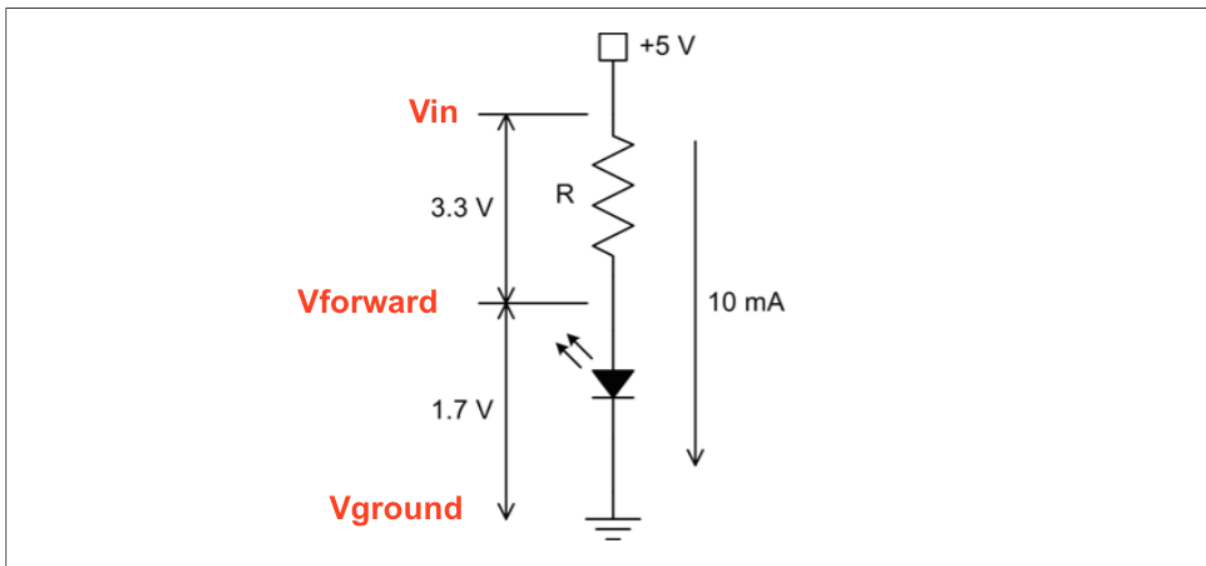

Figure 2-9. Simple LED circuit
Set up the LED circuit and use Ohm's law and Kirchoff's law to determine the properties of the circuit. Referring to Figure 2.9 from "Realworld Instrumentation", below.
1. Use the circuit diagrams in Figure 2.9 to build your circuit between the Arduino, LED and breadboard. For power source, use the Vin pin on the Arduino. For Ground, use the GND pin adjacent to Vin. (*NOTE: LED's only permit current to flow in one direction. Attach the long pin closest to +V and the short pin closest to GND.*)
1. What color is your LED? Based upon color, the LED shop figure tells us the expected voltage drop at the max allowable current. What should the voltage drop and max current through the LED be? (In Figure 2.9, this is labeled as 1.7 V. In our case, it might not be 1.7 V). **Report the color of your LED and the expected voltage drop in your writeup.**
- Now that you have a theoretical voltage drop across the LED (from question 1), use Kirchhoff's voltage law to estimate the voltage drop across the resistor. $\sum_j V_j = 0$; the sum of the voltages around a circuit must be zero. (In Figure 2.9, this is labeled as 3.3 V). Report the value here.
6. Now, measure the voltage drop across the resistor using jumpers and the Analog IO pins. Connect jumpers to your breadboard so that they measure at positions $V_{forward}$ and V_{in} (see Figure 2.9). Connect V_{in} to A0 on the Arduino. Connect $V_{forward}$ to A2 on the Arduino.